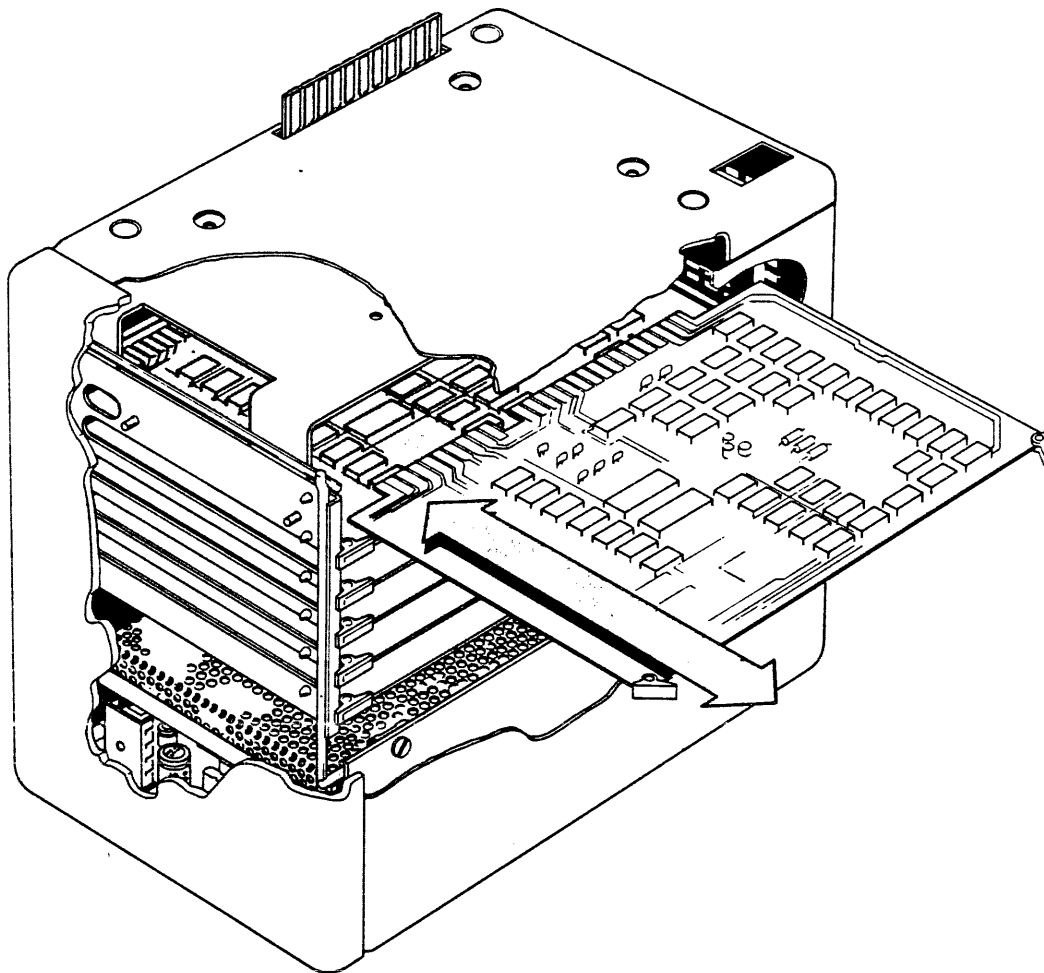

Figure 2-7. Installing the First Slave CPU Board
13. Plug the SDL 4-pin connector end of the terminal cable (the same one referred to in step 3) into the first terminal port on one of the DBSI Slave boards in the Expansion Box (see Figure 2-7). The port is accessed via the rear of the box.